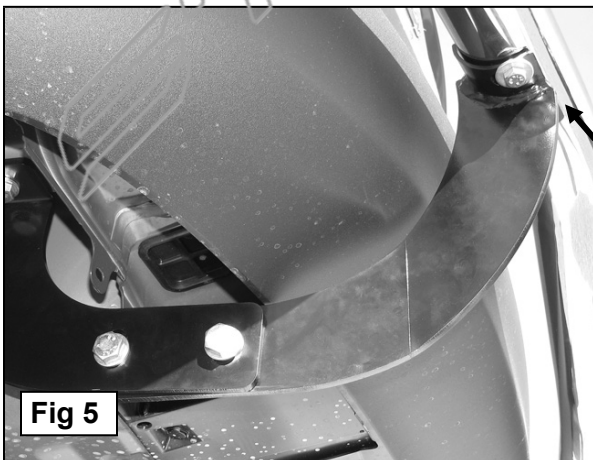

Fig 5
7. Carefully position the Rear Bumper Guard onto the Mounting Brackets. Attach the Rear Bumper Guard to the Brackets with the included (4) 8mm x 25mm Hex Bolts, (4) 8mm Lock Washers and (4) 8mm Flat Washers, **(Figure 5)**.